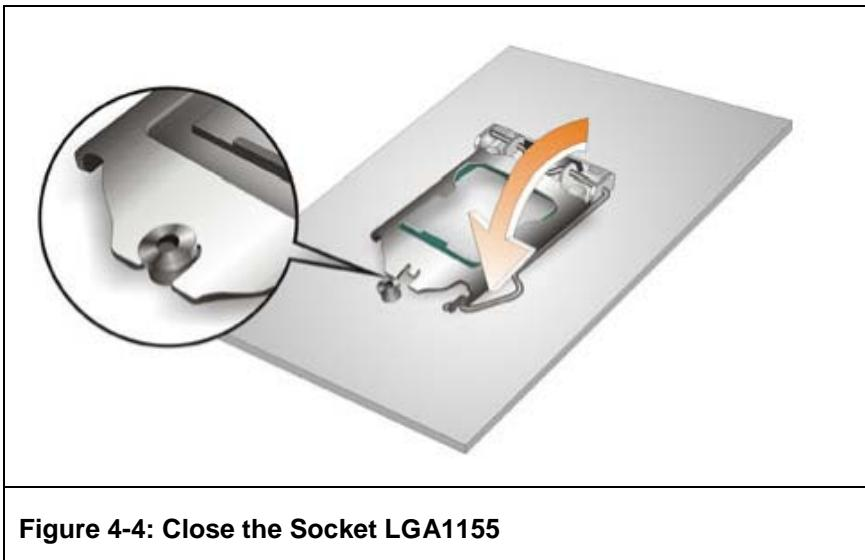

Figure 4-4: Close the Socket LGA1155
Step 8: **Close the CPU socket.** Close the load plate and pull the load back a little to have the load plate be able to secure to the knob. Engage the load lever by pushing it back to its original position. See **Figure 4-4.** There will be some resistance, but will not require extreme pressure.